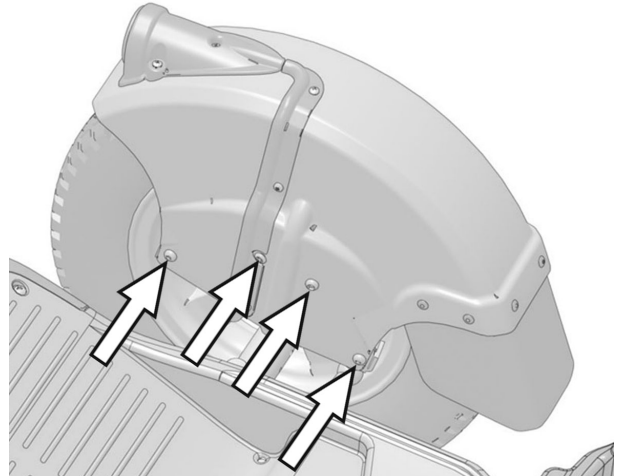

Figure 7. The front mudguard is held in place with 4 screws.
1. Unscrew and remove the four screws that hold the front mudguard in place. See fig. 7.